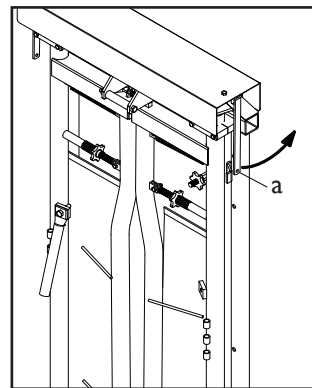

Figure 7: Releasing the animal
1. To release the animal, pull the control handle (a) on the side of the headgate toward the rear of the headgate as shown (Figure 7).